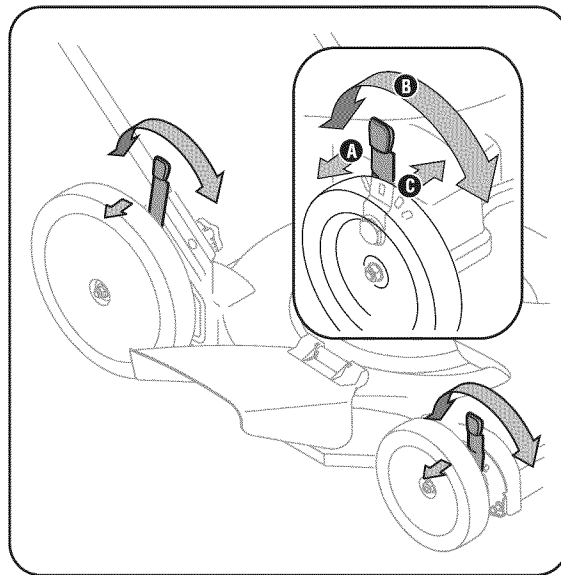

Figure 3-7
- b. Slide lever to desired position for a change in cutting height. See Figure 3-7.